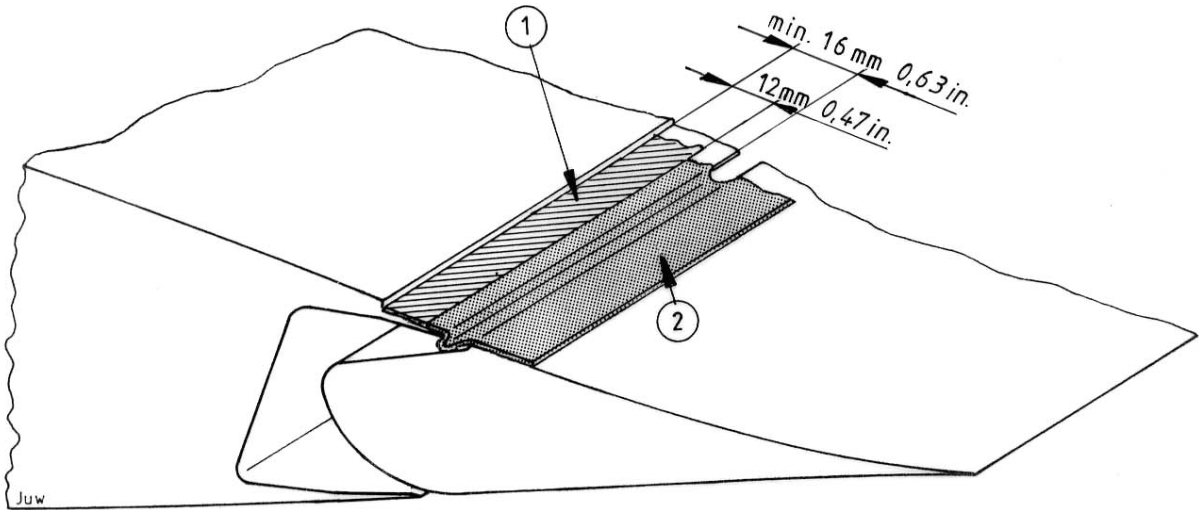

FIG. 1 Lower Wing Surface
- 4.1 If not yet provided, a step must first be rebated in the upper wing surface as illustrated in Fig. 1 by carefully removing the finish layer down as far as the outer FRP lamination [approx. 0.5 mm deep] without damaging the layers.
- 4.2 Into the recessed step apply a 12 mm wide temporary positioning tape (1) [e.g.: 12 mm Tesa film 104] abutting the front edge of the step (Fig. 1)
5.1 If not yet provided, a step must first be rebated in the upper wing surface as illustrated in Fig. 1 by carefully removing the finish layer down as far as the outer FRP lamination [approx. 0.5 mm deep] without damaging the layers.